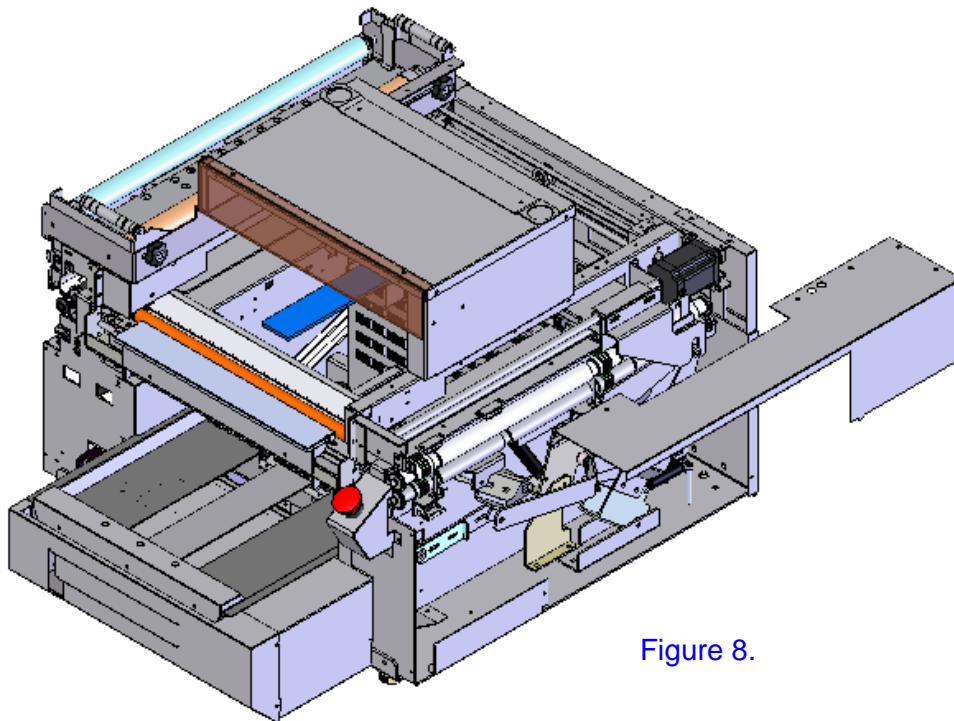

Figure 8.
13. Remove the upper, right cover (five screws). See Figure 8.